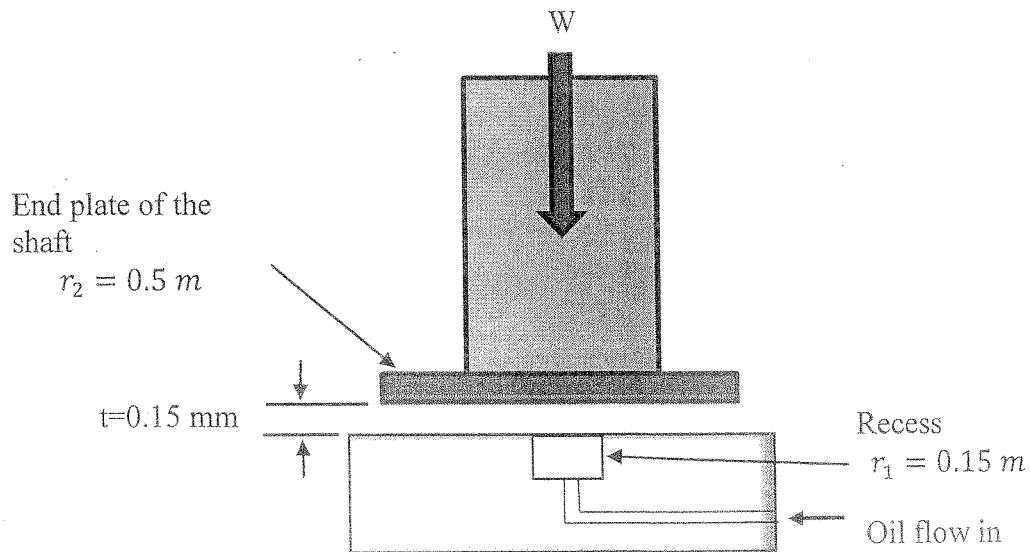

Figure Q5
- c) Figure Q5 shows a schematic diagram of a circular footstep bearing used in a hydroelectric power plant. The radius of the end plate of the shaft  $r_2 = 0.5$  m and the radius of the cylindrical recess  $r_1 = 0.15$  m. An oil at pressure 7 MPa with a dynamic viscosity  $0.25$  Ns/m2 is pumped to the bearing recess. The metal to metal contact is prevented by maintaining oil film thickness of  $t = 0.15$  mm between the bottom surface of the end plate and the bearing. If the generator shaft of the power plant is rotating at a speed of 2400 rpm, determine,